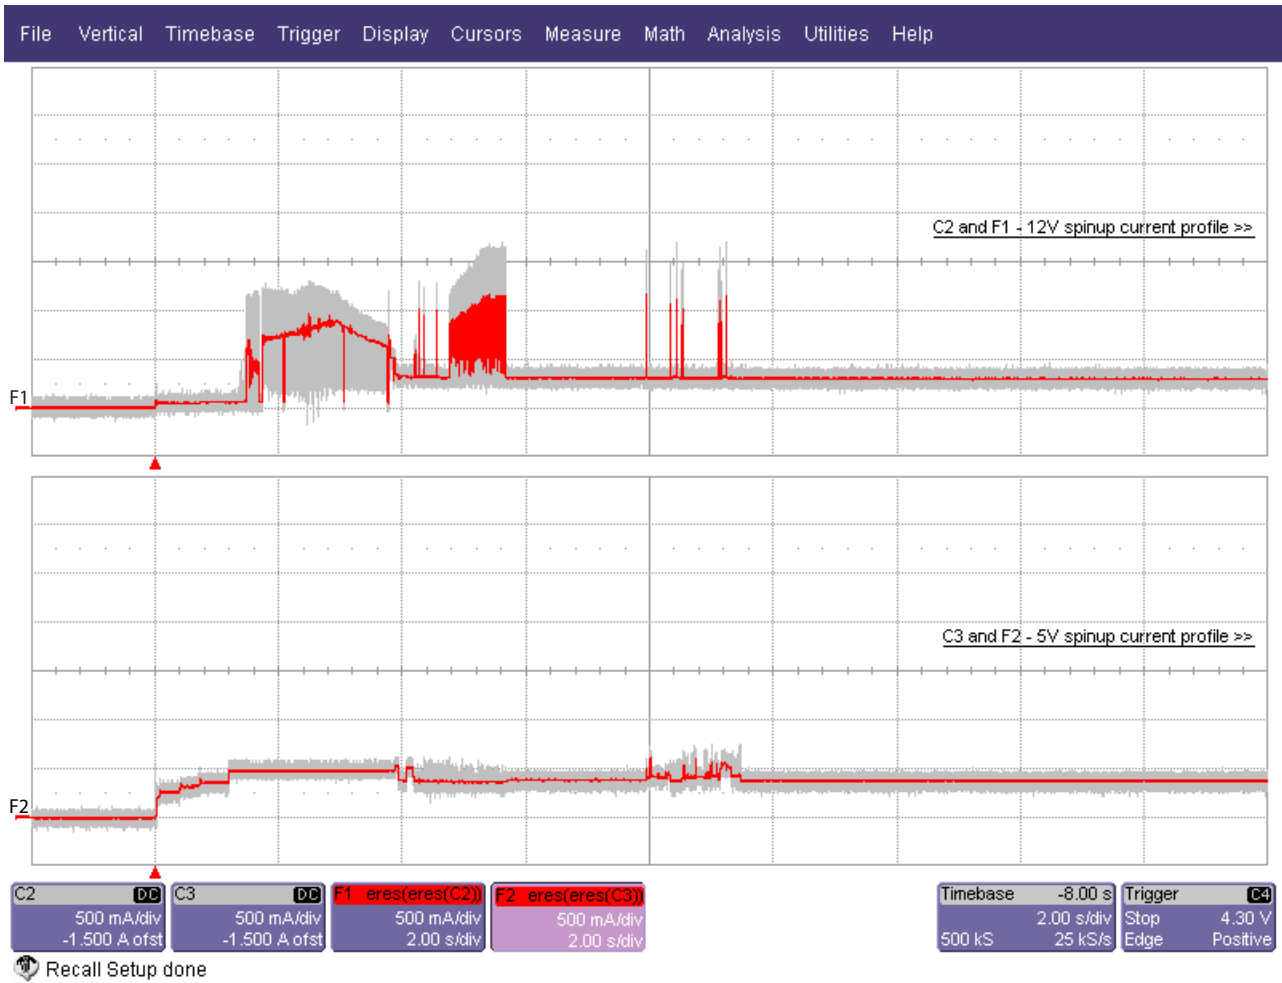

Figure 16. Current profiles for 600GB models
- [3] See +12V current profile in Figure 16.